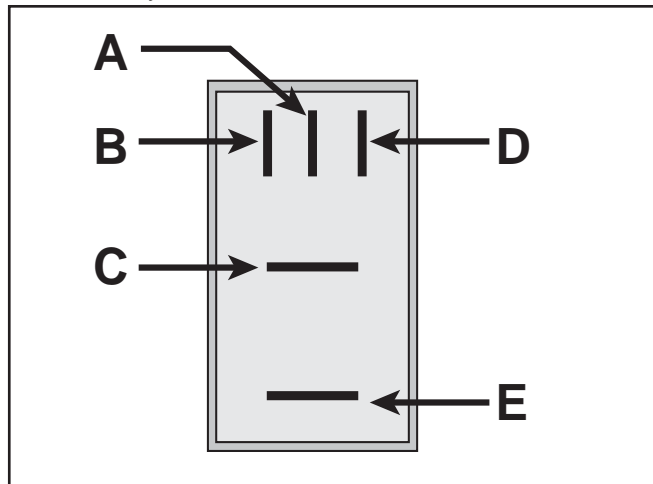

Figure 10
A common terminal (E) connects the ground wire of the PTO clutch to ground through the normally closed contact (A). Voltage is supplied to the positive side of the coil (D) from the A1 terminal of the keyswitch (Figure 10).
with a multimeter (ohms setting). Resistance should be approximately 105 ohms. There should be continuity between terminals A and E (Figure 10).
3. Connect multimeter (ohms setting) leads to relay terminals E and C. Ground terminal B and apply +12 VDC to terminal D. The relay should make and break continuity between terminals E and C as 12 VDC is applied and removed from terminal D (Figure 10).
4. Connect multimeter (ohms setting) leads to relay terminals E and A. Apply +12 VDC to terminal D. With terminal B still grounded, the relay should break and make continuity between terminals E and A as 12 VDC is applied and removed from terminal D (Figure 10).